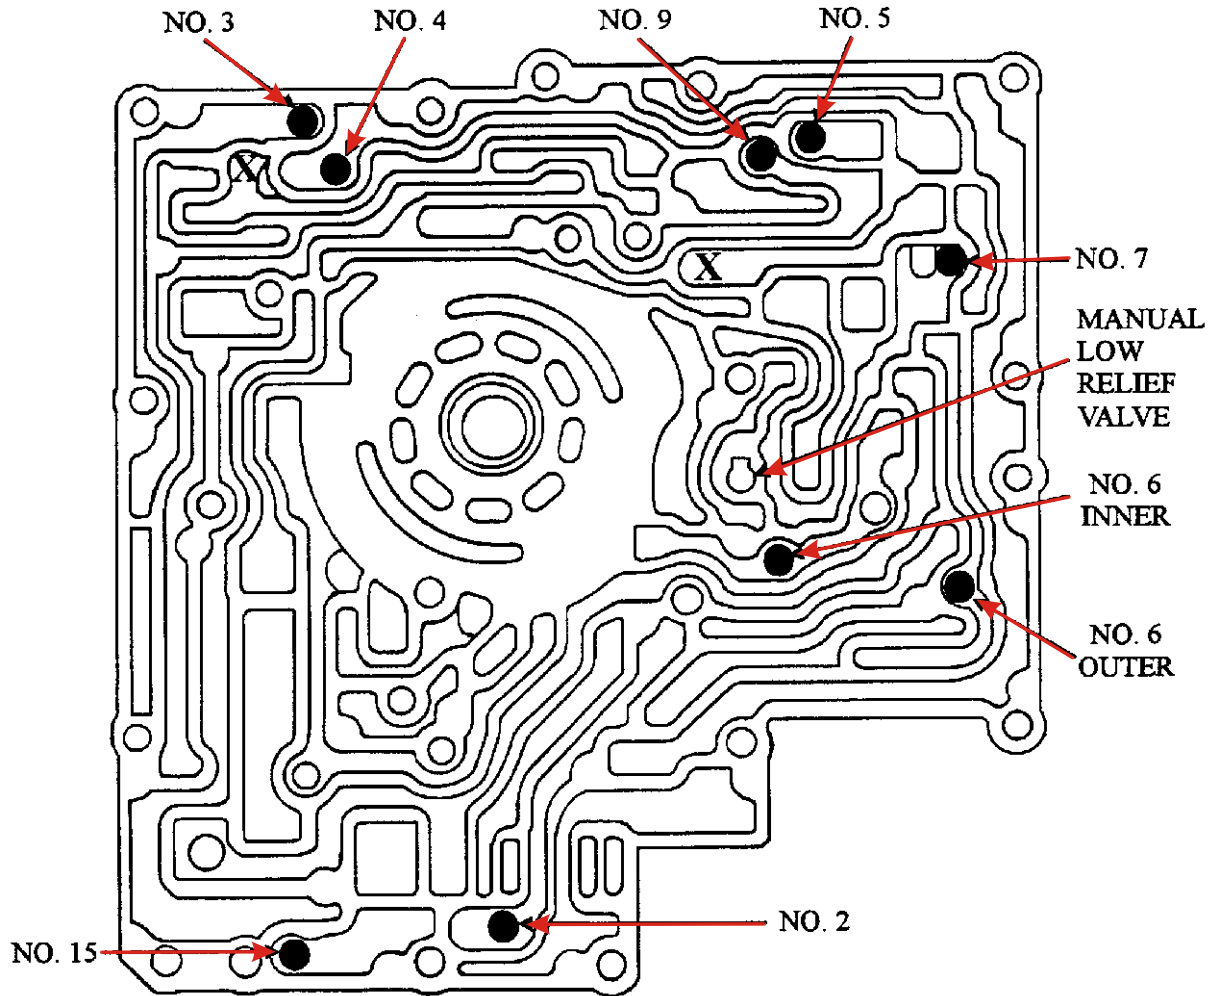

Figure 2
The valve body has SEVEN (7) checkballs and the location of the check balls are the same for all models and all years. REFER TO FIGURE 2 FOR LOCATIONS